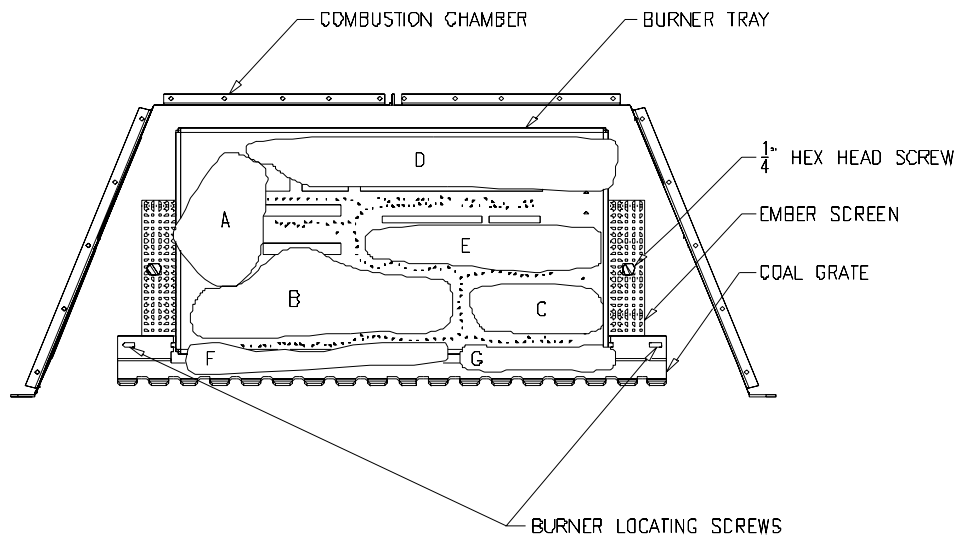

Figure 4.3 Burner Removal
2. Remove the ember screens by unfastening the 1/4" hex head screws that hold each in place (see Figure 4.3).
3. Remove the screws at each end of the coal grate on the burner tray assembly (see Figure 4.3).